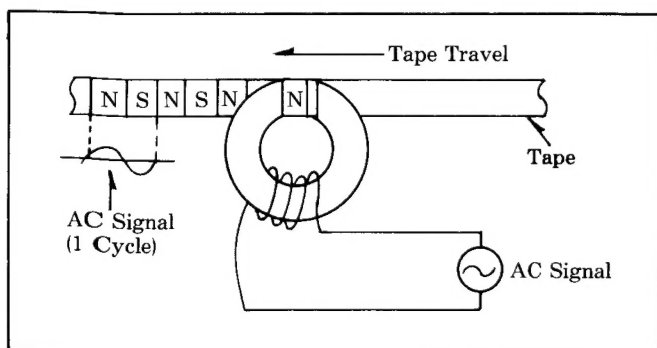

Fig. 2.
The tape will have differently magnetized regions, which can be called North (N) and South (S), according to the AC signal. When the polarity of the AC signal changes, so does the direction of magnetization on the tape, as shown by one cycle on the AC signal (see Fig. 2). If the recorded tape is then moved past a head whose coil is connected to an amplifier, the regions of magnetization on the tape will set up flux across the head gap which will in turn induce a voltage in the coil to be amplified. The output of the amplifier, then is the same as the original AC signal. This is essentially what is done in audio recording, with other methods for improvement like bias and equalization.
There are some inherent limitations in the tape recording process which do effect video tape recording, so they will be examined now. As shown in Fig. 2, The tape has North and South magnetic fields which change according to the polarity of the AC signal. What if the frequency of the AC signal were to greatly increase?